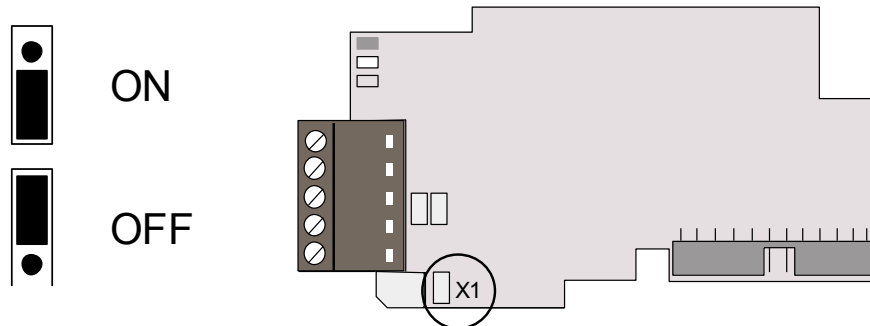

Figure 4-5. Jumper X1 positions
- Leave no more than 1 cm of the data cable outside the terminal block and strip the data cables at about 0.5 cm to fit in the terminals. See Figures 4-5 and 4-6.